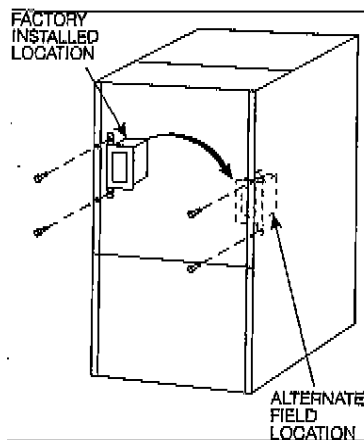

Fig. 24—Relocating J-Box
1. Remove 2 screws holding auxiliary J-box. (See Fig. 24.)